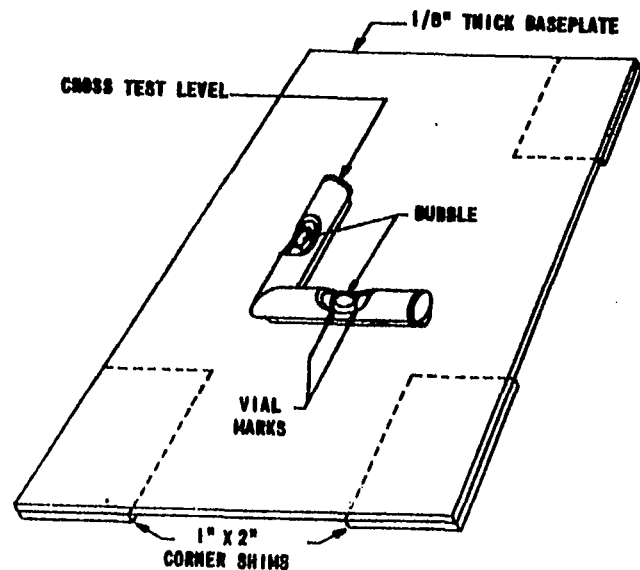

FIG. 2 METHOD OF INDIVIDUAL BASE PLATE LEVELING, USING CORNER SHIMS (PAR. 8.2)
8.23 Place the R-95333 Cross Test Level found in the R-3223 Level Set on top of the 1/8 inch plate at one of the positions. (See Figure 2) Place the 1" x 2" shims, as required, under the corners of the plate until the bubbles in
the Cross Test Level are centered between the black lines on each vial. Place the shims at the corners of the plates with the 2 inch dimension along the 8 inch dimension of the plate as shown in Figure 2.